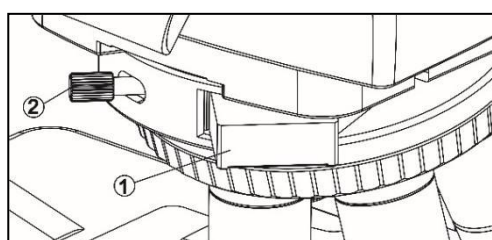

Figure 14
### 3-12 The use of extended function board (Figure 14)
As figure 14, a slot for the expansion panel is reserved on the converter, and the microscope mirror has been inserted into the slot with a normal light and dark field plate. To use other expansion function boards, simply spin the serial number ② out of release, pull out the standard light and dark field board, and then insert the expansion function board into the slot and tighten the screws of the serial number ②.